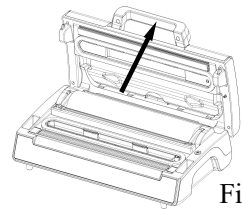

Fig.1
1. Open the top cover - **Fig.1**